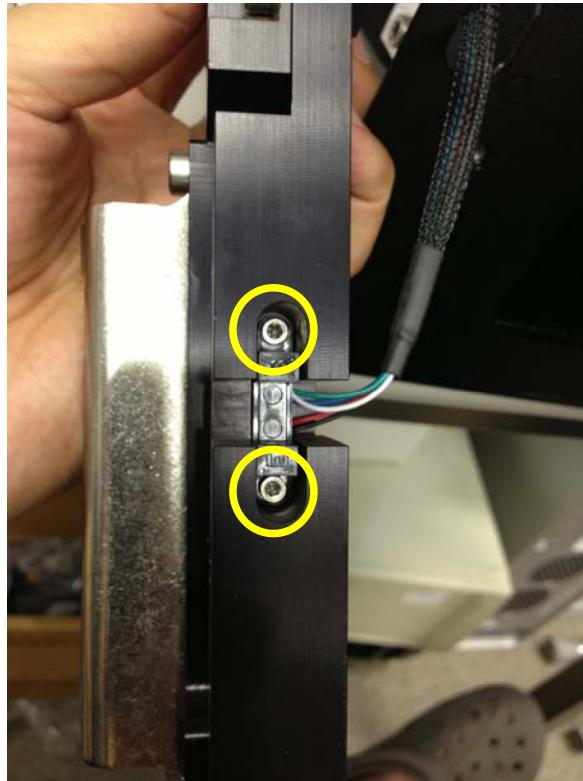

Figure 36
5. Remove two M2.5 hex screws that hold the Door Ajar Sensor (**Figure 36**).